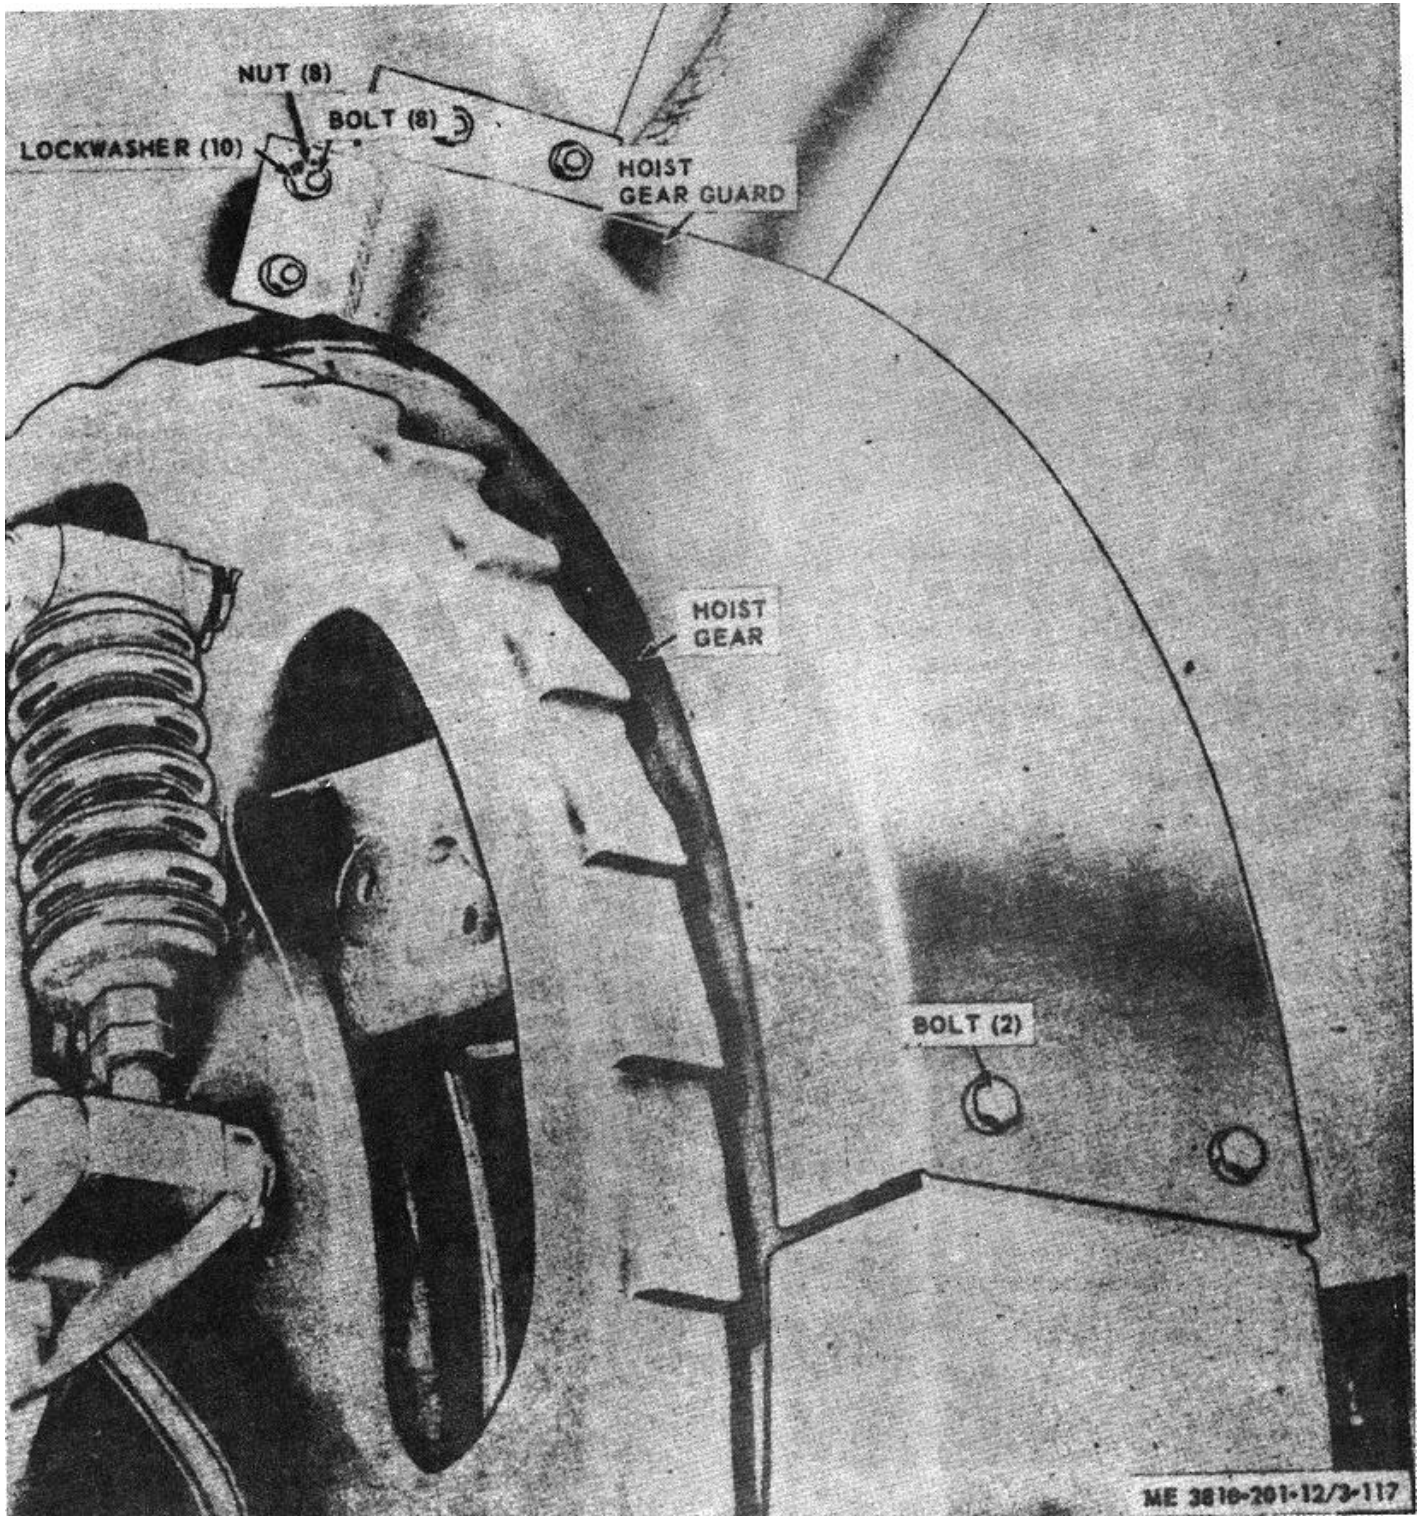

Figure 3-104. Hoist gear guard, removal and installation.
c. *Hoist Gear Guard, Removal and Installation.* Refer to figure 3-104 and remove hoist gear guard. Install in reverse order.